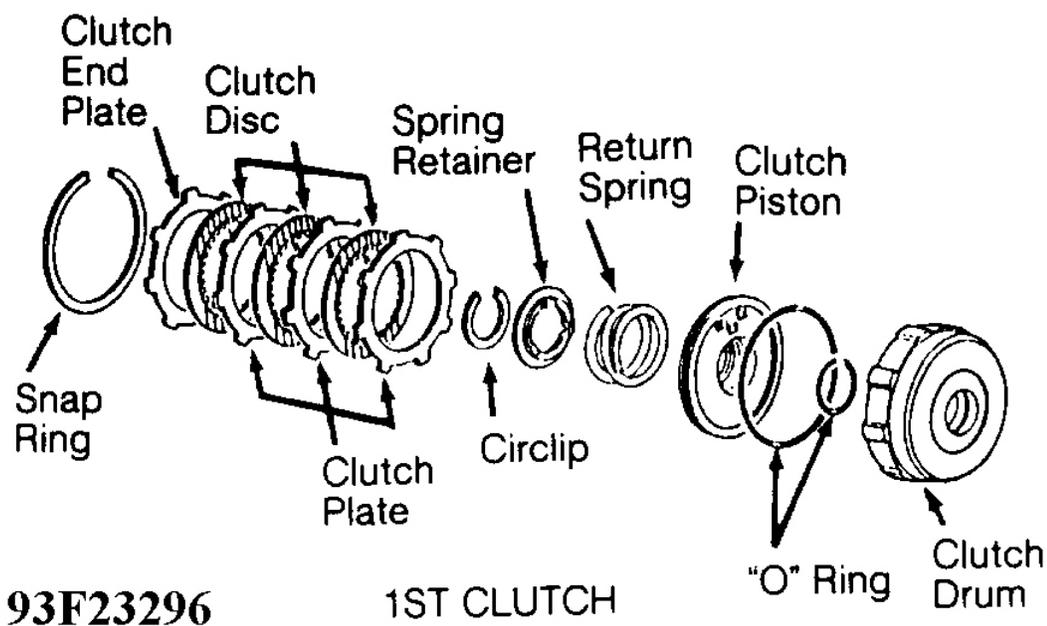

Fig. 22: Exploded View Of Clutch Assemblies (1 of 3)
1. Remove snap ring, clutch end plate, clutch discs and clutch plates. See **Fig. 22** . On 2nd clutch, note direction of disc spring installation. Remove disc spring.
3. Install disc spring on 2nd clutch. Ensure disc spring is installed in proper direction. See **Fig. 22** .
- Install dial indicator with stem resting against pinion gear. See **Fig. 22** . Check pinion gear backlash. Pinion gear backlash should be .002-.006" (.05-.15 mm).